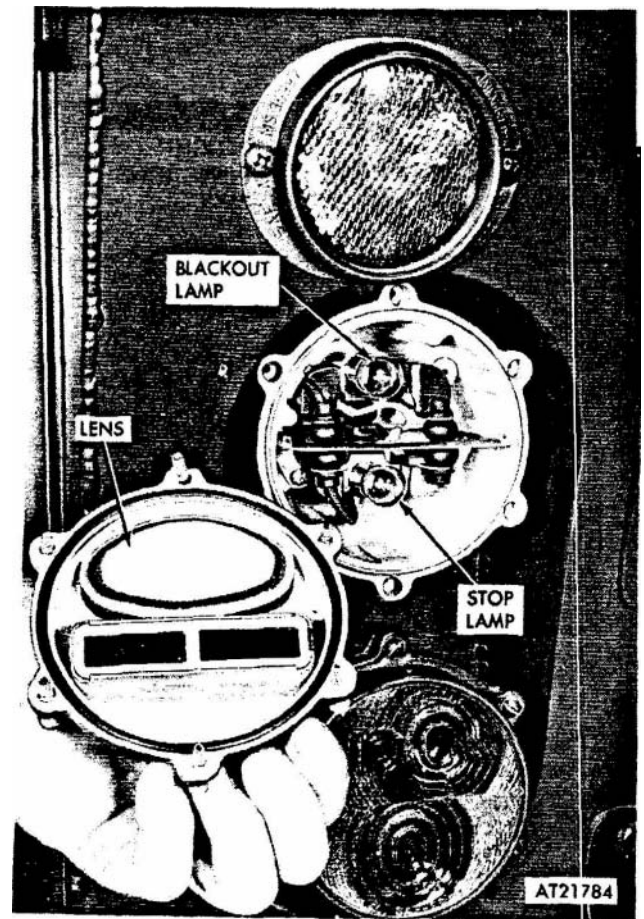

Figure 2-132. Stop-blackout lamp replacement.
(2) Remove defective lamp by depressing and turning lamp (fig 2-132).